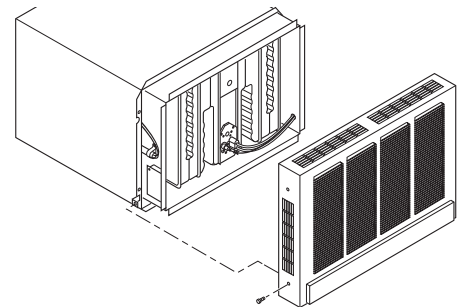

Figure 17 - Attaching Front Cover to Cabinet
2. Secure the sides of front cover to lower sides of furnace cabinet with two screws provided (see Figure 17).